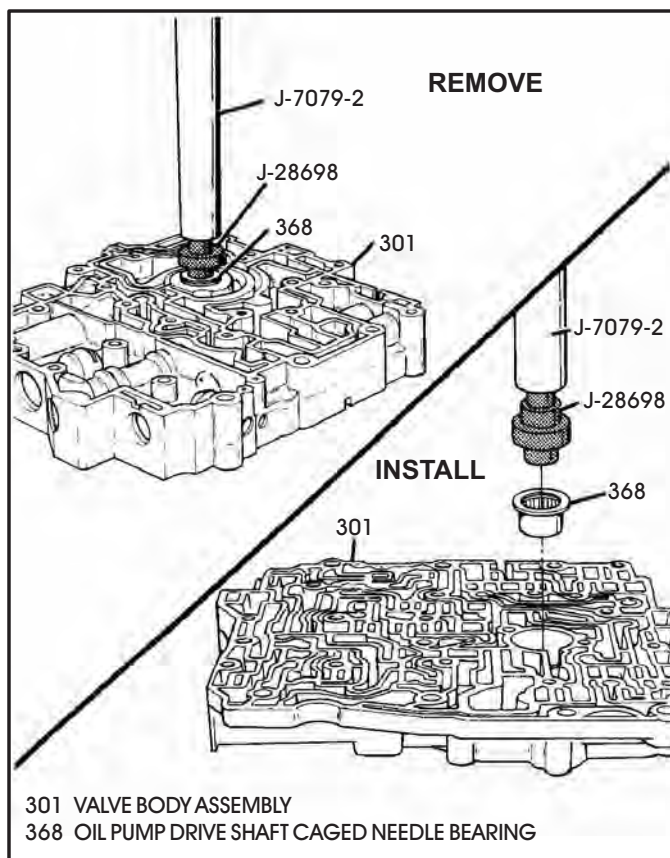

Figure 146
7. If it becomes necessary to replace the oil pump drive shaft caged needle bearing, remove with J-28698 as shown in Figure 146. Push out partially with tool and complete removal with screwdriver.
8. Press new bearing into place with J-28698, as shown in Figure 146, until fully seated.